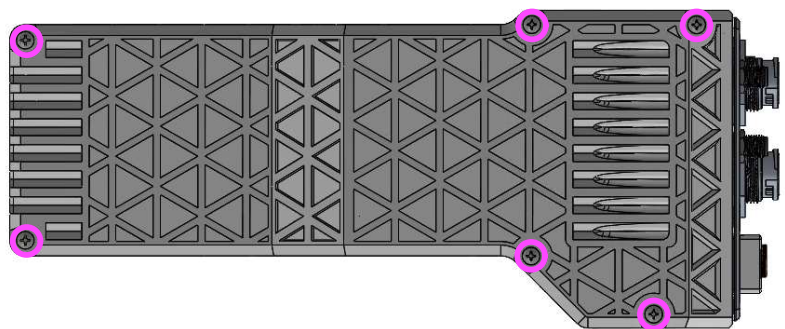

Figure 3. EDGETAK clamshell top screws (see also Figure 13)
2. Remove six outer screws from larger half of the enclosure with Phillips screwdriver as shown in Figure 3.